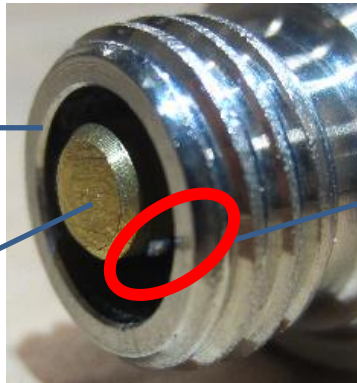

Figure 20 The brass taper pin and trigger wire (circled in red) must be visible in the receiver opening.
2. Examine the brass taper pin, trigger wire and pin receiver (Figure 20).